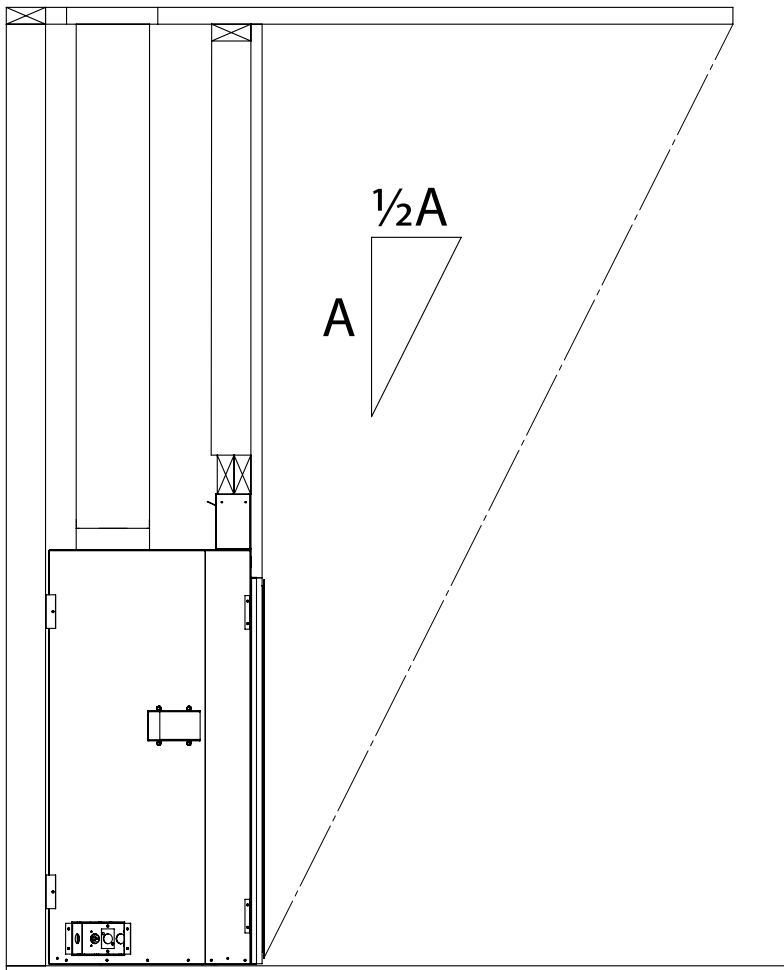

Figure 42: Overhang Depth Requirements
- The fireplace must be protected by an overhang with a depth that is at least equal to half of its height from the base of the fireplace, as shown in Figure 42.